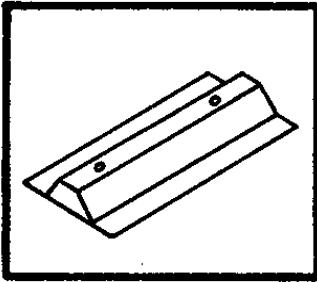

Fig. 23 - Block Length Mold.
73. Blocks can be made with hollow cores running the whole length of the block, but this takes a little more time. The proper molds for these blocks have to be made (see Fig. 23);